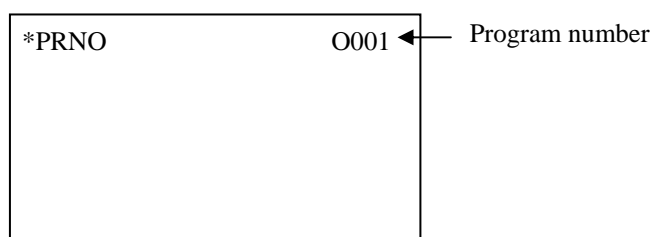

Fig 6.2
- 2A. There are two ways to select the program number for editing. The 1st method is to press letter "G" twice to get "P" - Program number (1 for example), then press INPUT key to complete the program selection. Program #1 has been selected in Fig 6.2.
- 2B. The 2nd method is, after step 1 above, to use CURSOR \uparrow , CURSOR \downarrow to step through the programs in the memory. When the desired number shows up on the LCD screen as shown in Fig 6.2, simply press EDIT key. The controller is now ready for program editing. Note that the program number is NOT necessary in sequence.